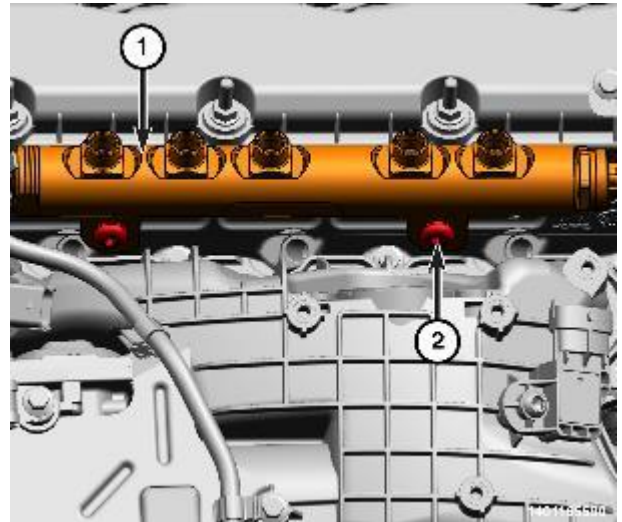

Figure 130 – Right Fuel Rail
- 68. Using the Remover-Installer, Fuel Rail Bolt 2025400090, remove the right fuel rail bolts (2) and the right fuel rail (1) (Figure 130).